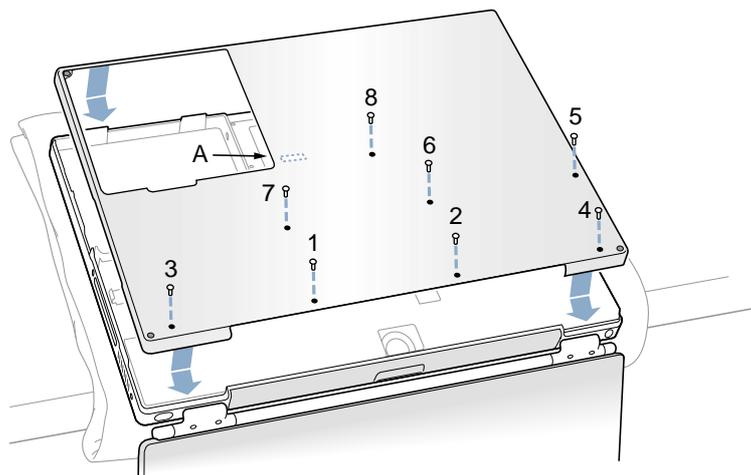

Figure 7
4. Replace the eight screws in the order shown in the illustration (**Figure 7**). Do not overtighten the screws or damage could result.